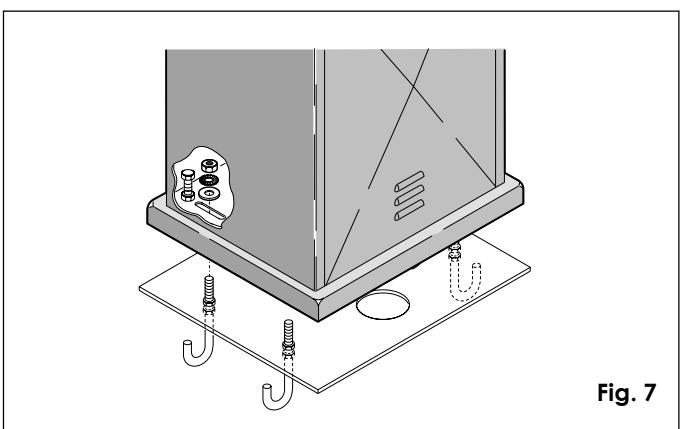

Fig. 7
- 1) Remove the casing (2, fig. 1) and position the gear motor on the foundation plate. Fit, but do not tighten, the washer, the split washer and the nut as shown in fig. 7.